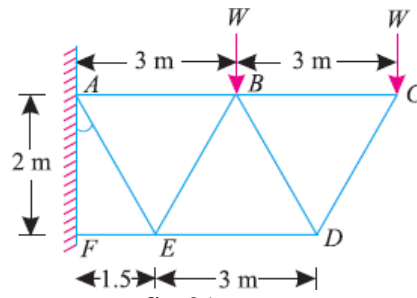

fig.31
4. A cantilever truss is loaded as shown in Fig.31. Find the value W, which would produce the force of magnitude 15 kN in the member AB. [10 M]